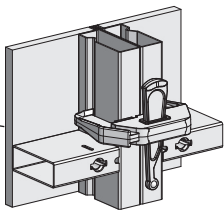

Fig. 8.3
- Panel connection with the AS assembly lock in the continuous groove (Fig. 8.3).